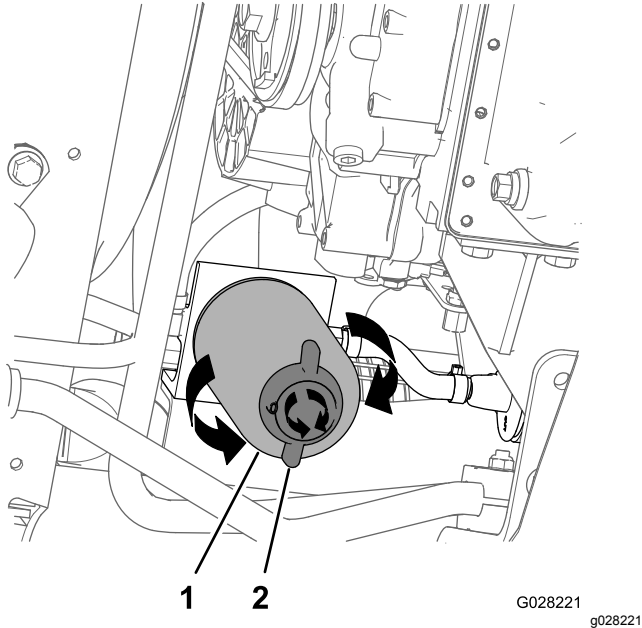

Figure 76
- Align a drain pan under the fuel filter; refer to Figure 76 in Replacing the Water-Separator Filter (page 59).
2. Place a drain pan under the water-separator filter (Figure 76).
3. Rotate the drain valve at the bottom of the water-separator filter counterclockwise (Figure 76).
4. Clean the area around the water-separator filter and filter-adapter mount (Figure 76).
5. Remove the water-separator filter (Figure 76).
9. Ensure that the drain valve at the bottom of the water-separator filter is rotated clockwise tightly (Figure 76).